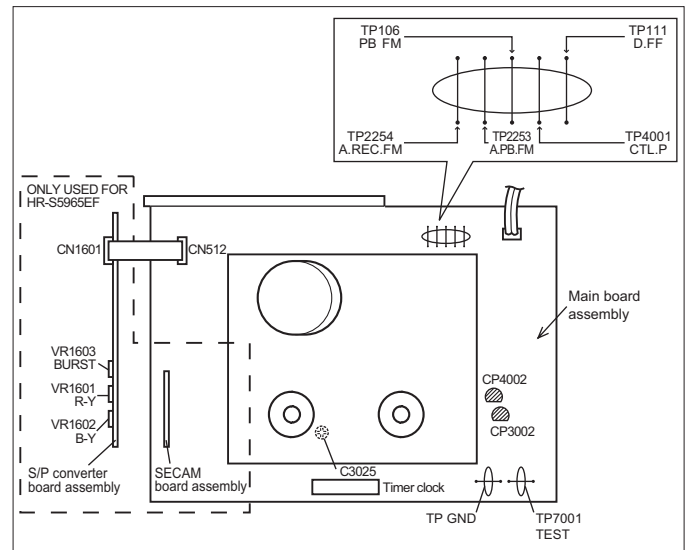

Fig.2-4-1a
- (1) Refer to the disassembly procedure and perform the disassembly of the major parts before removing the Mechanism assembly.
- (2) Remove the screws that fix the Mechanism assembly to the Chassis assembly. If any other screws are used to fix the boards, remove them also.
- (3) Remove the combined Mechanism and Main board assemblies.
- (4) If any other major parts are used, remove them also.
- (5) Connect the wires and connectors of the major parts that have been removed in steps (1) to (4). (Refer to Fig. 2-4-1a.)
- (6) Place the combined Mechanism, Main board and other board assemblies upside down.
- (7) Insert the power cord plug into the power outlet and then proceed with the diagnostics and servicing of the board assembly.